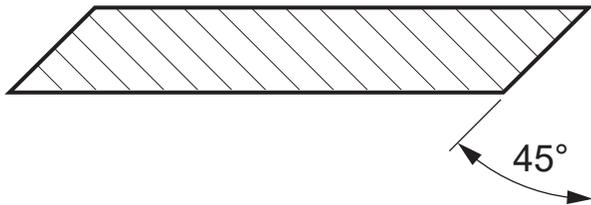

Figure 32—Sharpen rotor knives to a 45° angle
5. Use a grinder to sharpen the cutting edge of the rotor knife. Sharpen the cutting edge to a 45-degree angle. See *Figure 32*.